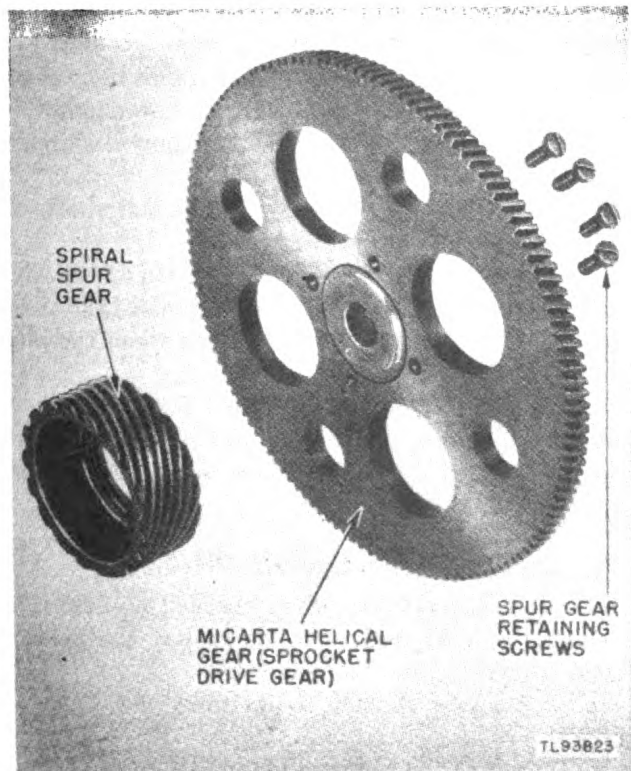

Figure 116. Removing spiral spur gear from micarta helical gear.
51. Replacing Micarta Spiral Spur Gear (Counter Shaft Drive Gear) (fig. 116)
53. Replacing Micarta Helical Gear (Sprocket Drive Gear) (fig. 116)